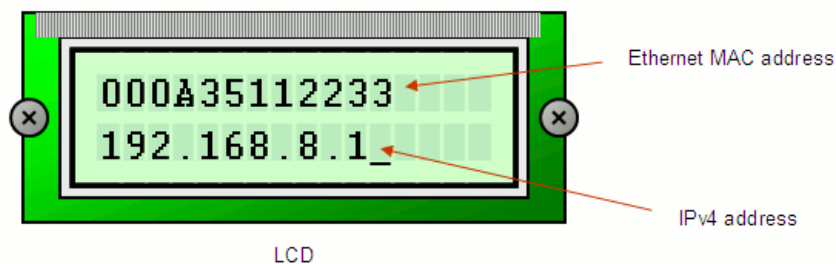

Figure 4-22: Ethernet Parameters Displayed on ML402 LCD Display
12. Depending on which configuration method is chosen, the MAC address in the FPGA interface panel might need to be changed (Figure 4-22).